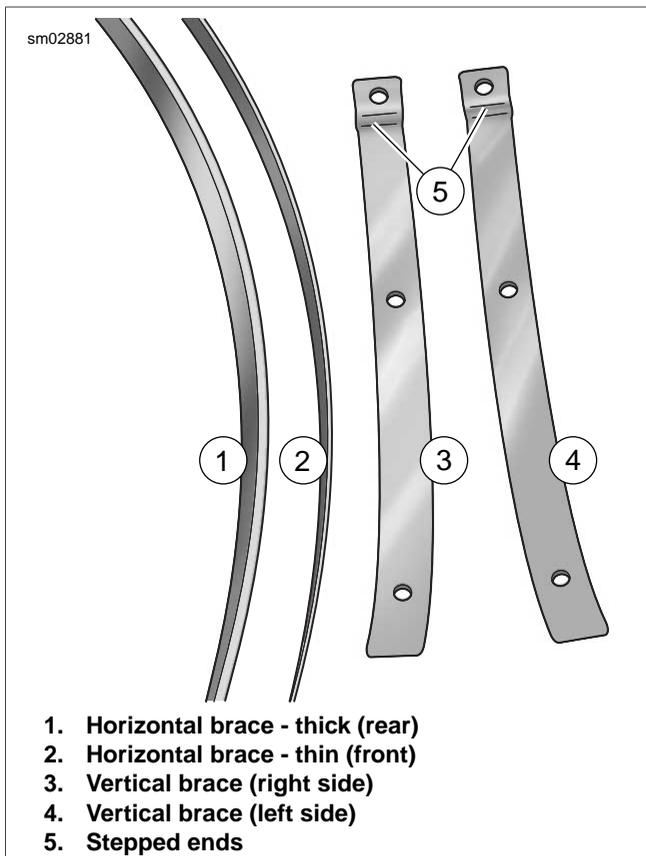

Figure 2-157. Windshield Braces
4. Locate the two vertical braces with the step on one end and set these aside for later use. Now pick the thicker of the two horizontal braces that remain. See Figure 2-157.
10. Remove paper backing from adhesive strip on vertical brace. With the stepped end overlapping the installed horizontal brace (and the slight bend on the opposite end angled outward), align holes in brace with vertical set of holes in windshield, and press into position. See Figure 2-157.